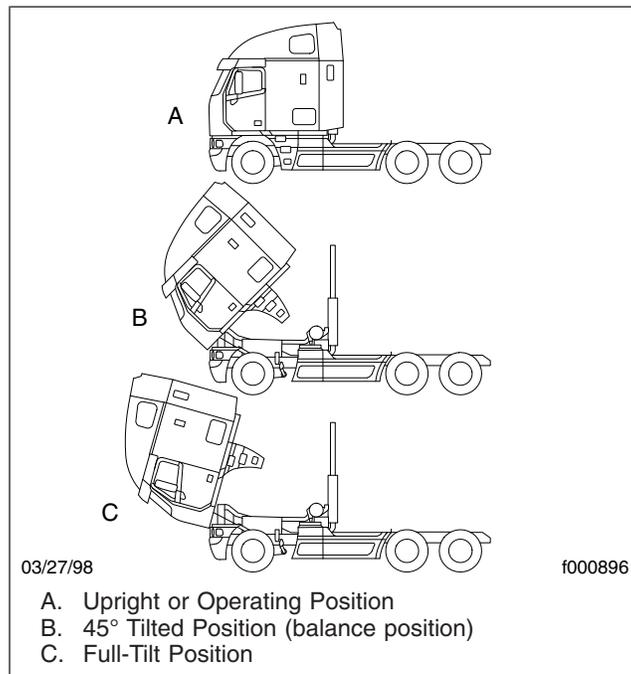

Fig. 30, Cab Tilt Positions
9. To tilt the cab all the way, press and hold the button on the pump until the cab nears a 45-degree angle (the balance point). See **Fig. 30**. Once the cab goes beyond 45 degrees, release the button on the pump and move the tilt pump lever to the RETURN position in order to slow the cab descent.